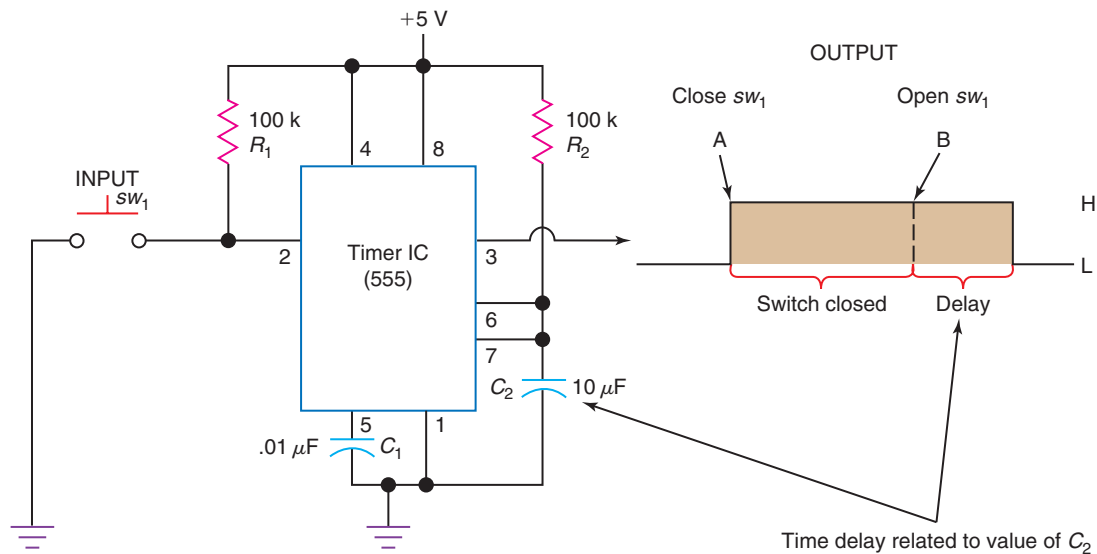

Fig. 5-14 Switch debouncing circuit using the 555 timer IC.
Another switch debouncing circuit using the versatile 555 timer IC is sketched in Fig. 5-14. When pushbutton switch SW₁ is closed (see point A on output waveform) the output toggles
The delay period can be adjusted for the switch debouncing circuit shown in Fig. 5-14.
31. Refer to Fig. 5-14. Pressing (closing) input switch SW_1 caused the output of the 555 IC to toggle from _____ (HIGH-to-LOW, LOW-to-HIGH).
32. Refer to Fig. 5-14. Releasing (opening) input switch SW_1 (see point B on output waveform) causes the output of the 555 IC to _____.
33. Refer to Fig. 5-14. The time delay at the output of the 555 IC can be decreased by _____ (decreasing, increasing) the capacitance value of C_2 .
Figures 5-15(c) and (d) show the 4000 series CMOS ICs being operated on a higher supply voltage (+10 to +15 V). Because of the higher voltage, a 1-k Ω limiting resistor is placed in series with the LED output indicator lights. When the output of the CMOS inverter in Fig. 5-15(c) goes HIGH, the LED output indicator lights. In Fig. 5-14(d), however, the LED indicator is activated by a LOW at the CMOS output.